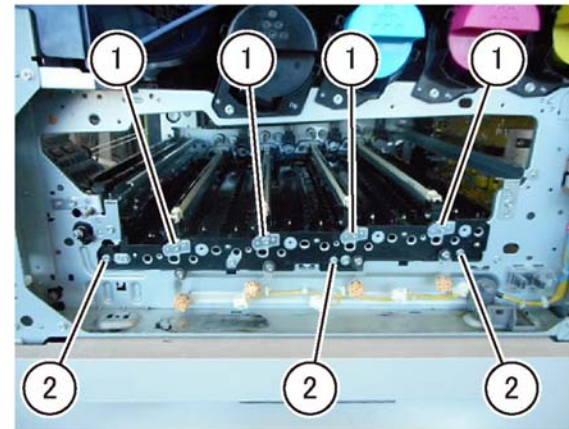

Figure 9 FFC cables
18. Remove the screws that secure the LPH and marking guide, Figure 9.